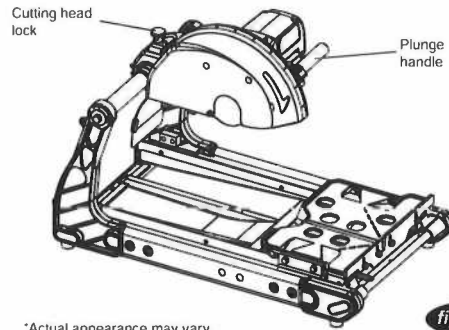

figure 2
1. Raise the cutting head to the horizontal position by using one hand to grab the plunge handle while the free-hand pulls on the cutting head lock. (see figure 2)